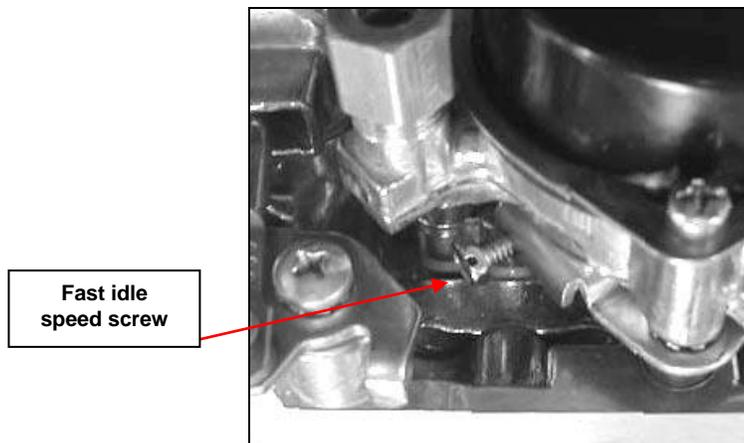

Figure 8
3. If the fast idle RPM is too low or too high for your preferences, TURN THE ENGINE OFF. Advance the throttle to wide-open, exposing the fast idle set screw below the choke housing (See **Figure 8**).